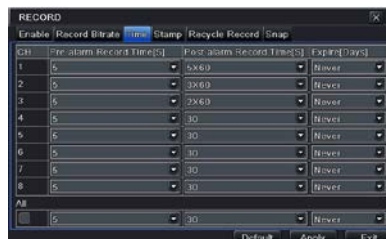

Fig 4.12 Record Configuration - Time
Step 1: Enter into system configuration → record configuration → time. Refer to Fig 4.12.